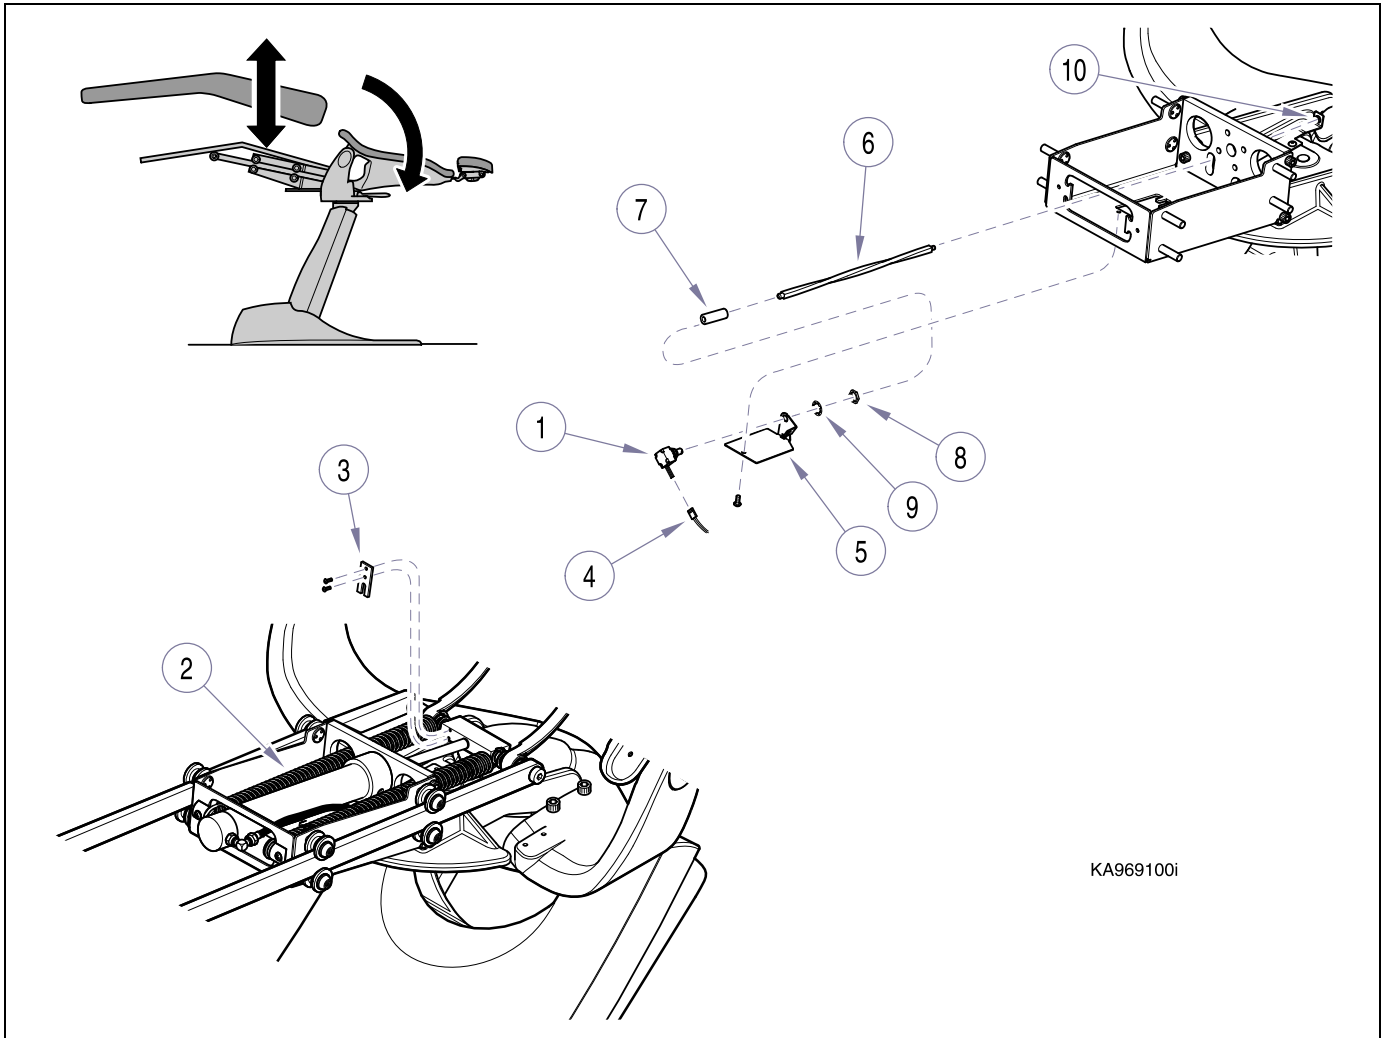

Figure 4-21. Back Potentiometer.
If necessary, back positioning potentiometer (1, Fig. 4-21) can be over-ridden in order to operate Back section.
- (2) Place chair back in full Back Down position and disconnect lift spring (2, Fig. 4-21) on patient's right side.
- (1) Secure potentiometer (1, Fig. 4-21) to back sensor bracket (5) with lockwasher (9) and mounting nut (8).